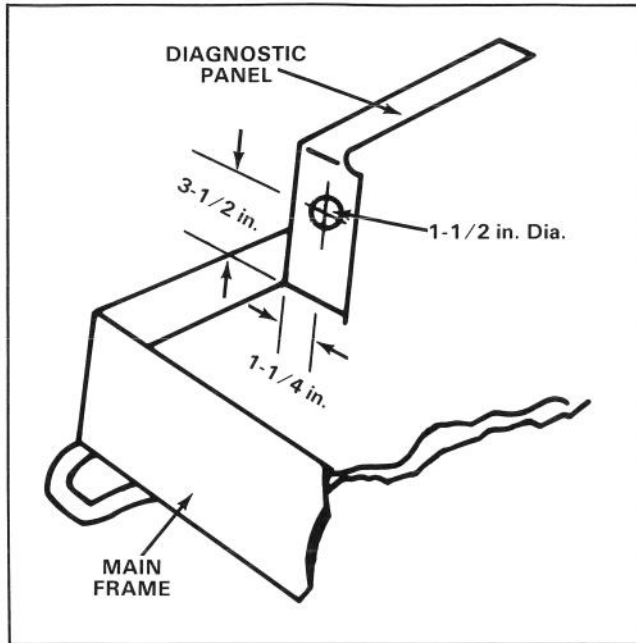

Figure 3
1. From the front lower edge of the panel, measure and mark 3-1/2 in. up the cover (Fig. 3).
2. From the outer edge, measure 1-1/4 in. and center punch where it intersects the 3-1/2 in. mark (Fig. 3).
3. Drill a 1-1/2 in. diameter hole in the cover (Fig. 3).
4. Install a P/N 240-3 grommet in the hole (Fig. 3).